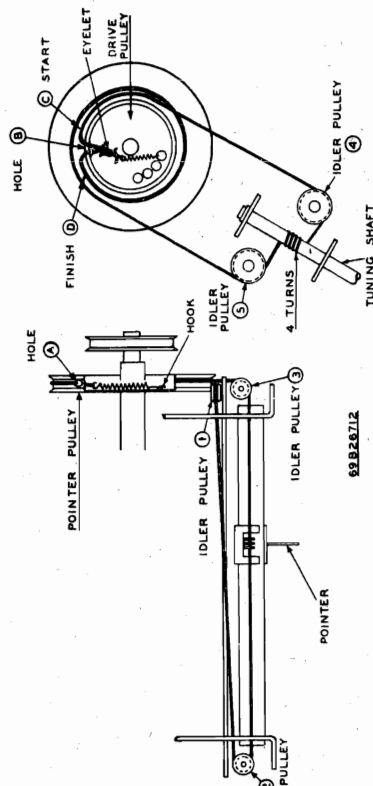

Figure 2
Thread one end of cord thru hole (A) in pointer pulley and with an ordinary paper clip fasten it to the tuning shaft bracket to hold it in place. See Fig. 2. In a counter-clockwise direction route cord to idler pulley No. 3 and around it in a clock-wise direction.
Fasten one end of spring (Part No. 41A14759) to cord and other end to hole in drive pulley. See Fig. 2.